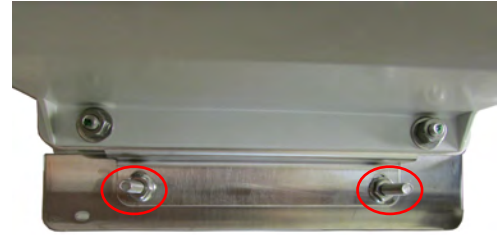

Figure 49: Disconnect enclosure from backplate
4. Disconnect the enclosure from the backplate by removing the two (2) locknuts from each side of the enclosure (*Figure 49*). Retain the locknuts as they will be used later to reattach the enclosure to the backplate.